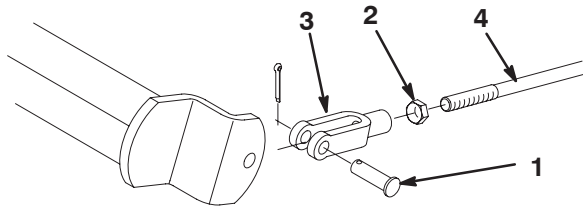

Figure 49
2. Loosen the jam nut and adjust the clevis accordingly (Fig. 49).
3. Assemble the clevis to the brake shaft (Fig. 49).